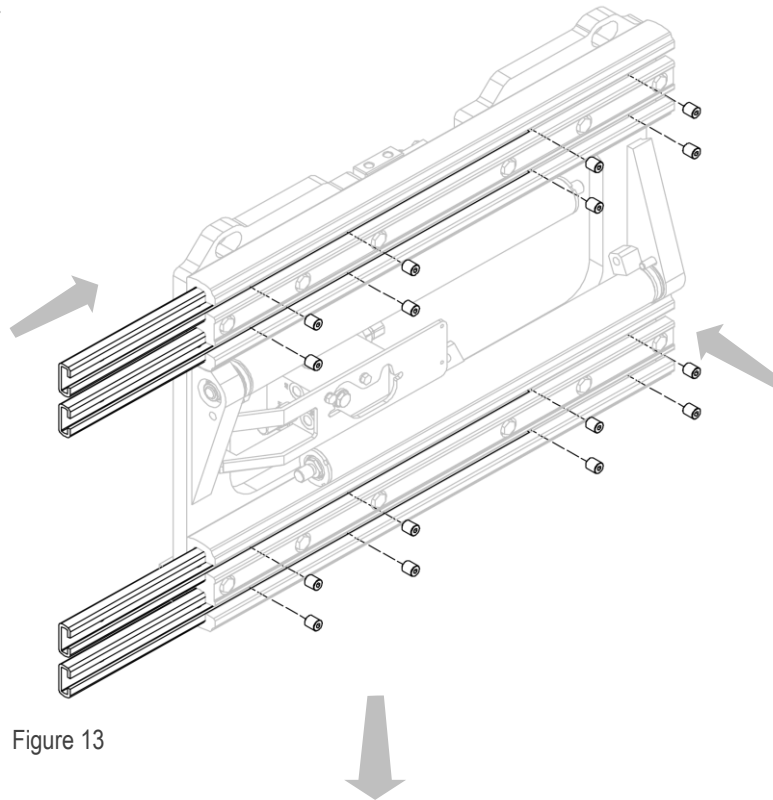
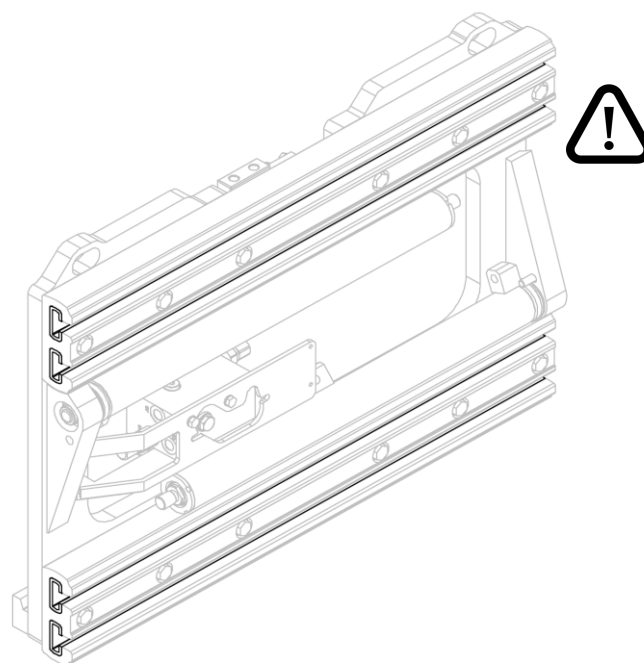

Figure 13
Figure 14
2. Insert the nylon bushes and secure them using the grub screws provided (see *Figure 13* and *Figure 14*).